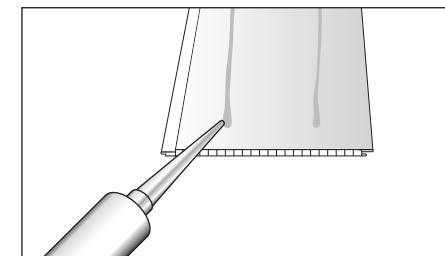
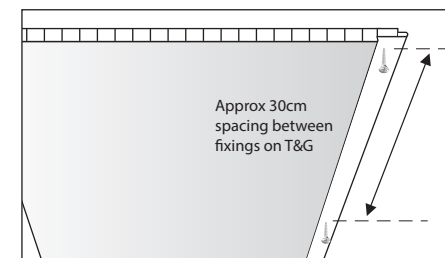

Fig.3
Fig.4
- Run a generous amount of adhesive on the back of the cut panel (Fig.3). To insert into the coving, Ancona ceiling panels have a flexible structure which allows the installer to bend. Bend your panel and click into place within both long sides of coving, then pushing in towards the short end. Once in place, secure to the ceiling using screws, staples or pins through the tongue of the panel, approximately every 30cm. (Fig.4)